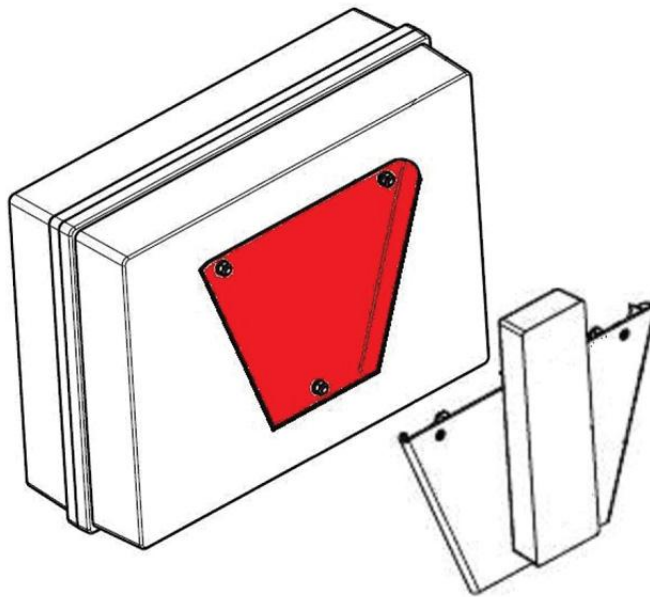

Figure 3-2: First aid kit and snap plate
2. Use the outside triangular bracket (part of item no. 728816 and marked with red in Figure 3-2, p. 4) as a template to drill holes in the back of the first aid box, and bolt the bracket on with the enclosed bolts.